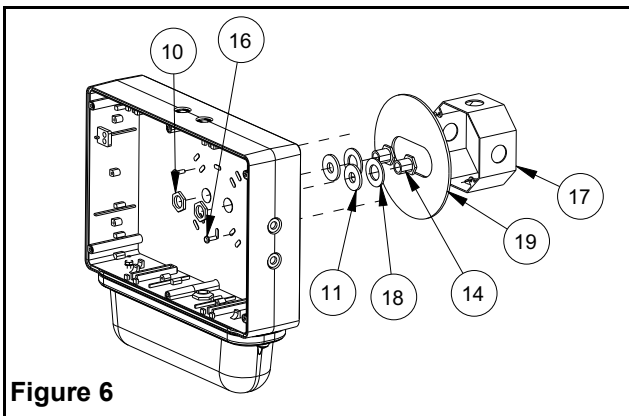

Figure 6
- a. Remove the backplate from the packaging. Determine the proper knockouts to remove for mounting to a junction box (see fig. 6).
- d. Mount parts 10, 11, 14 & 18 to backplate (as shown in fig. 6) and reinstall the backplate to the frame using the tamper-proof screws (use the supplied bit).